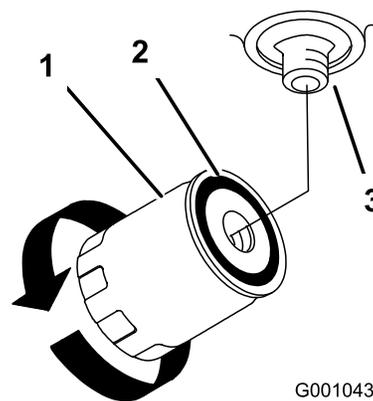

Figure 100
7. Apply a thin coat to the rubber gasket on the replacement filter (Figure 100).
9. Fill the hydraulic tank with hydraulic fluid until the fluid overflows the filter and then turn the fluid filter clockwise until the rubber gasket contacts the filter adapter, then tighten the filter an additional 1/2 turn (Figure 100).